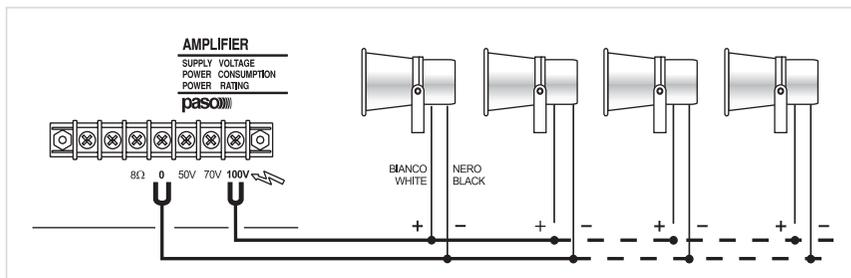
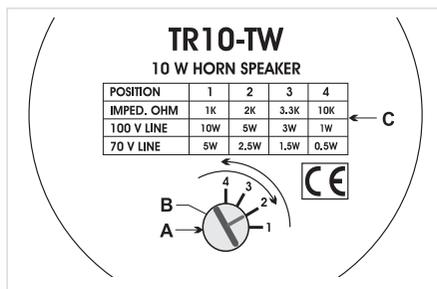

Fig. 1
Fig. 2
The **TR10-TW** horn speaker is particularly suitable to insonate outdoors. The construction and the materials used are such that it can also be suitable for bad climatic conditions, with saline or polluted atmosphere. For safety reasons, it is advisable to pay special attention when securing the speakers to the structure used to support it (wall, ceiling, stake, cross-member, etc.). All speakers have to be connected to the constant voltage line (see example in Figure 1).
- Connect the ends of the cable leading out from the horn to the 100 V distribution line as shown in Fig. 1 (when connected to a 70 V line, the power output of the horn will be reduced of 50%, see detail [C] of Fig. 2).
The change of the power value can be simply carried out by means of the relative 4-position trimmer located on the rear side of the horn (det. A, Figure 2). Insert a little flat-blade screwdriver into the slot [B] and turn it clockwise or anti-clockwise until the reference mark matches the desired power. The position/power correlations are indicated in table [C].